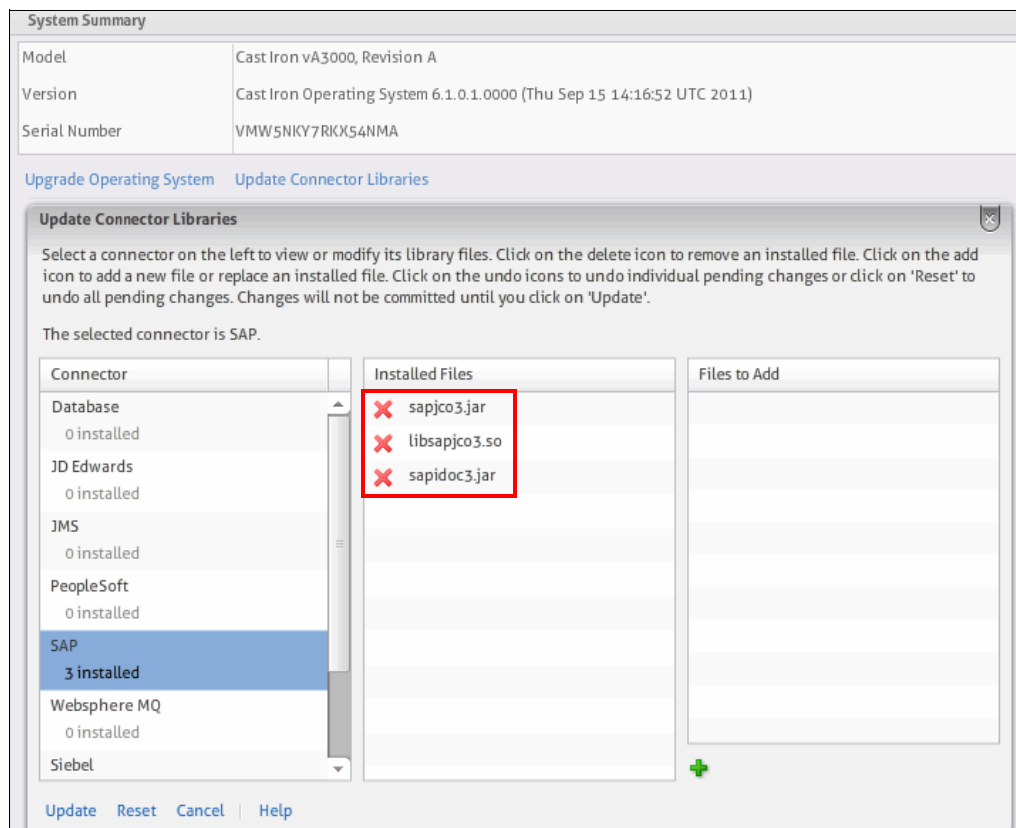

Figure 10-78 Verify SAP libraries in the Integration Appliance
- b. Ensure that the following SAP libraries are installed, as indicated in Figure 10-78: